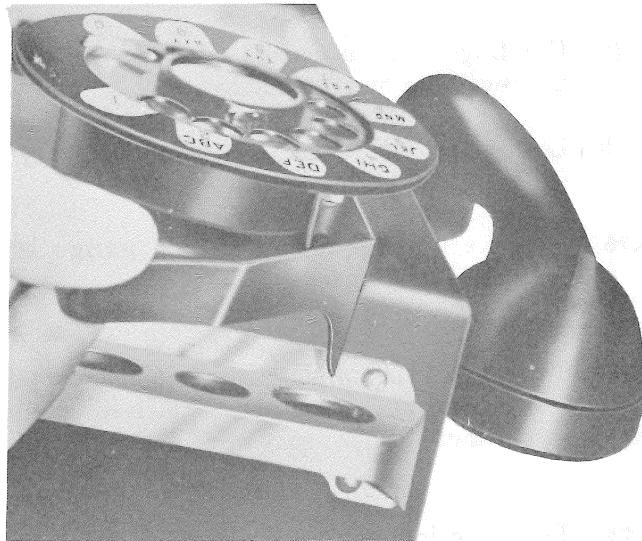

Fig. 30—Method for Installing P-14A544 Coin Deflector
- 6.24** A P-14A544 coin deflector is used with the 5-type dial and the 56A dial adapter. P-14A544 coin deflector replaces earlier P-16A805 coin deflector. See Fig. 30 and 31 for installation.